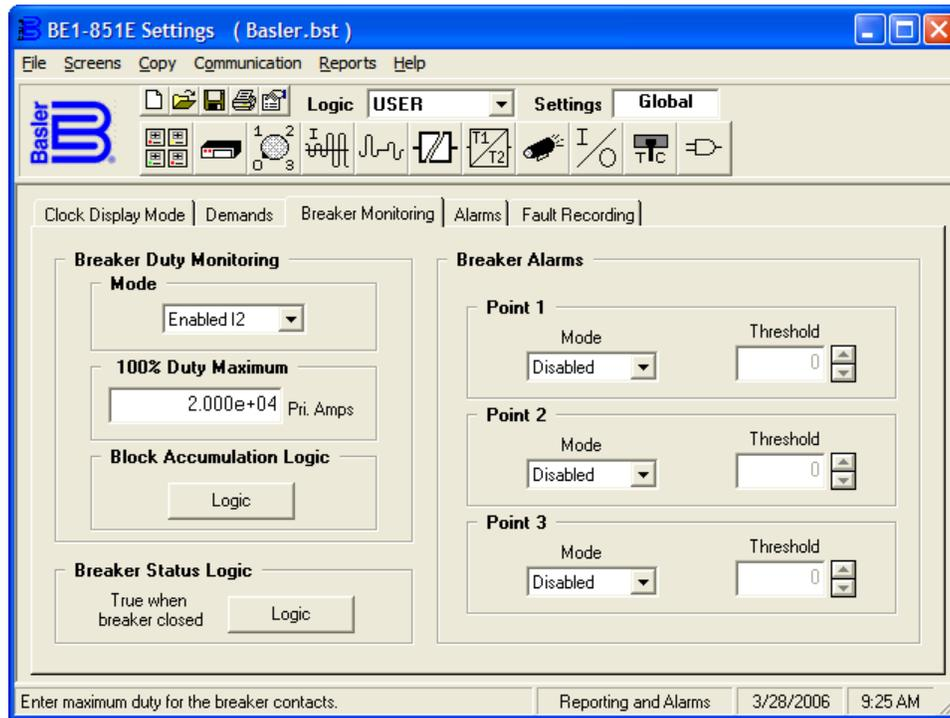
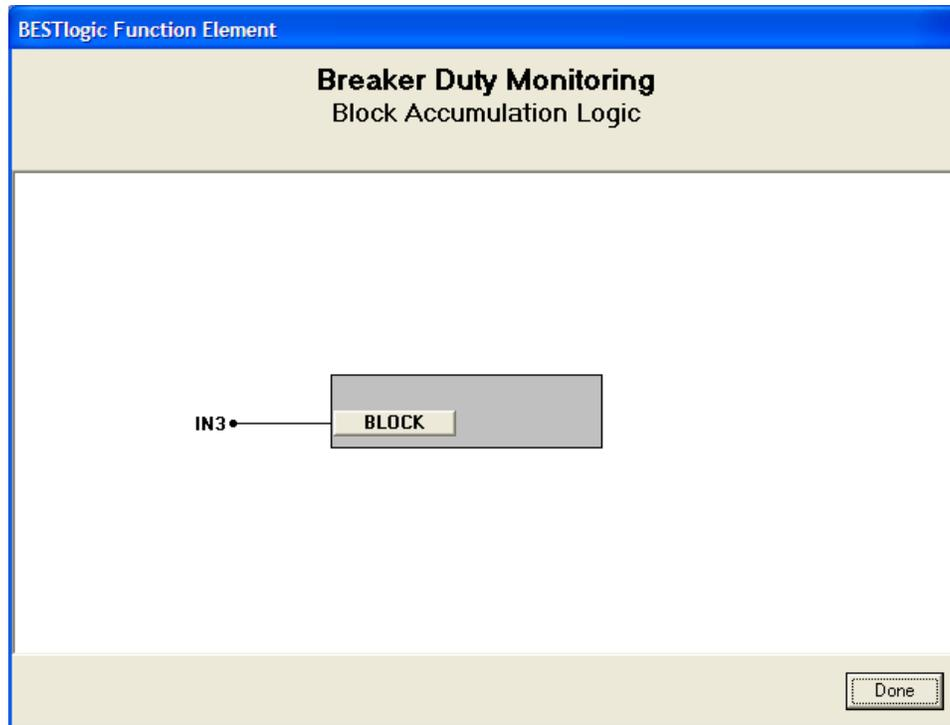

Figure 6-5. Reporting and Alarms Screen, Breaker Monitoring Tab
Figure 6-6. BESTlogic Function Element Screen, Breaker Duty Monitoring
*Breaker Duty Monitoring* settings are made using BESTCOMS. Figure 6-5 illustrates the BESTCOMS screen used to select settings for the *Breaker Duty Monitoring* function. To open the *Reporting and*
To connect the functions *BLOCK* logic input select the *Logic* button in the *Block Accumulation Logic* box. The *BESTlogic Function Element* screen for *Breaker Duty Monitoring* will appear. See Figure 6-6. Then select the *BLOCK* input button. The *BESTlogic Expression Builder* screen will open. Select the expression type to be used. Then, select the BESTlogic variable or series of variables to be connected to the input. Select *Save* when finished to return to the *BESTlogic Function Element* screen. For more details of the *BESTlogic Expression Builder*, see Section 7, *BESTlogic Programmable Logic*. Select *Done* when the settings have been completely edited.
Example 1. Make the following settings to the Breaker Duty Monitoring Function. Refer to Figure 6-5 and Figure 6-6.